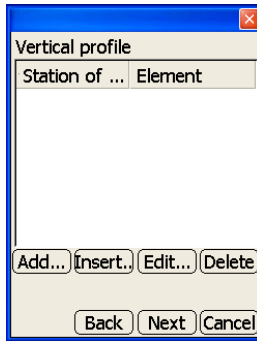

Figure 2-16. Vertical Profile Dialog Box
7. On the **Vertical profile** dialog box, press **Add** to create a vertical element, press **Insert** to add a vertical element between current elements, or press **Edit** to change a vertical element (Figure 2-16 on page 2-12).